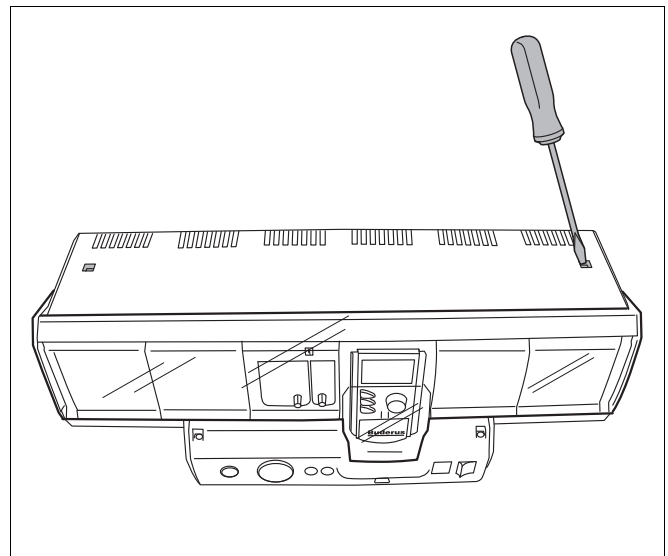
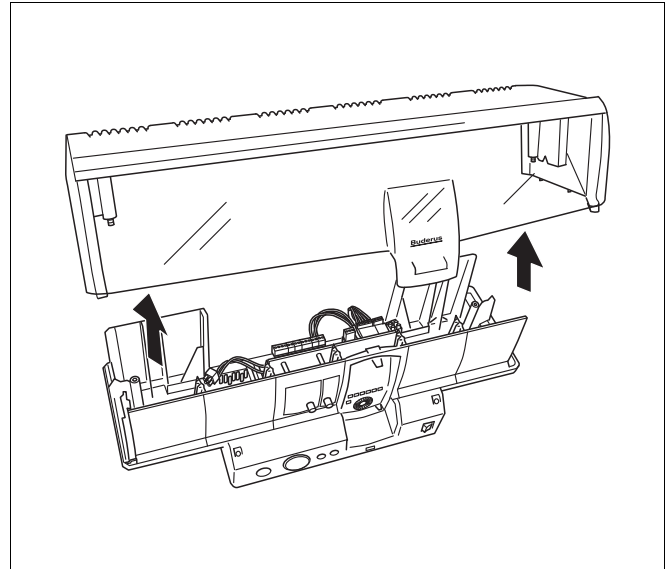

Fig. 2 Control unit lid, undoing screws
Fig. 9 Opening the device lid
- Release and remove the control unit lid (→ Fig. 2).
- Open the device lid (→ Fig. 2, page 6 and Fig. 9).